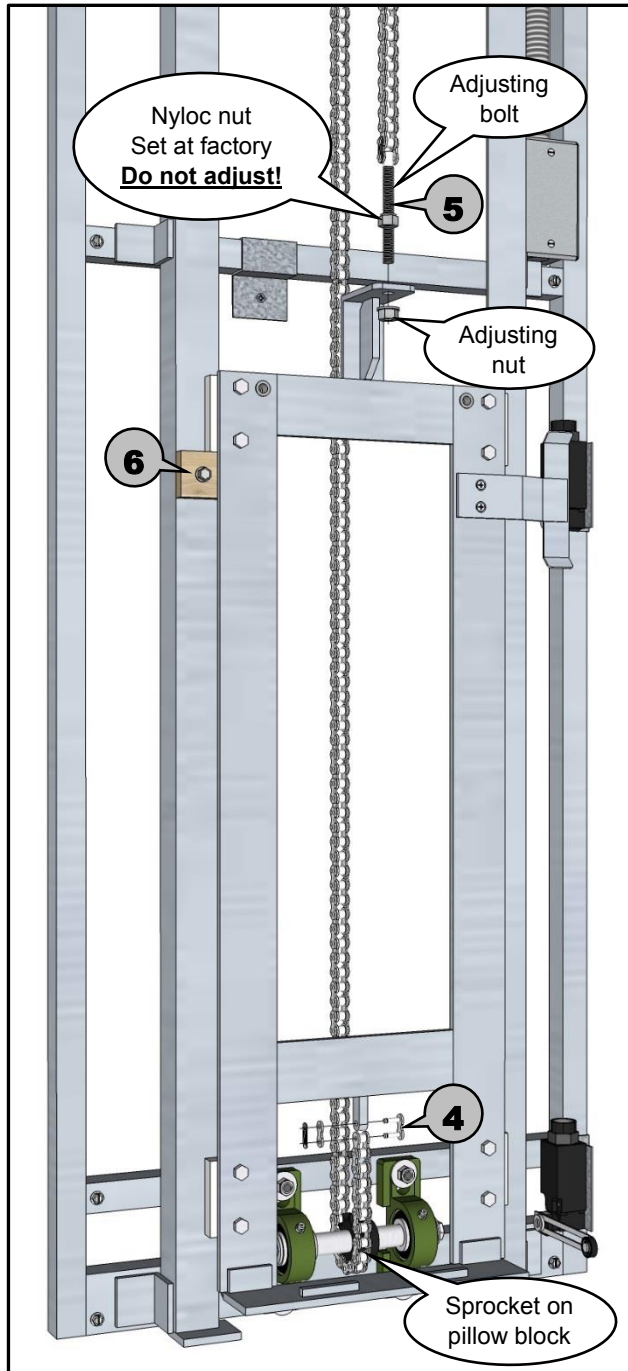

Figure 17
- 4 One end of the chain should hang down behind the trolley and be placed around sprocket on the pillow block. Then use provided master link, attached near the bottom of the trolley with a plastic tie, to connect chain to bottom end of trolley. (see Figure 17)
- 5 The other end of the chain with the adjusting bolt should hang down near the top of the trolley. Insert the threaded adjusting bolt, on the end of the chain, into the hole on the top of the trolley where the adjusting nut is tied on, and use the adjusting nut to secure the adjusting bolt to the trolley. Use a blade screwdriver or needle nose pliers to hold chain from twisting and tighten adjusting nut until Nyloc nut is tightly seated against trolley. **Do not adjust Nyloc!** (see Figure 17)
- 6 Some machines will have a trolley stop screwed to the track for shipping purposes, and it should be removed at this time. (see Figure 17)